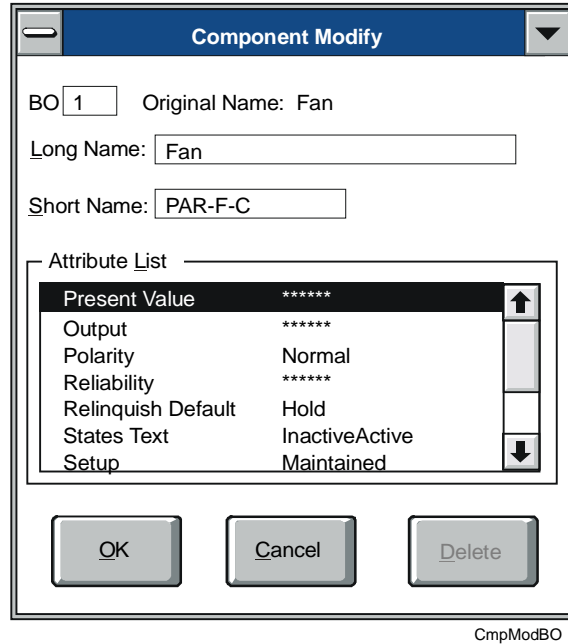

Figure 8-18: Modifying VMA Outputs Window
1. Double-click on the item in the attribute list you want to change. The Component Modify dialog box displays for the attribute you have selected (Figure 8-18). You can modify the value of each point.